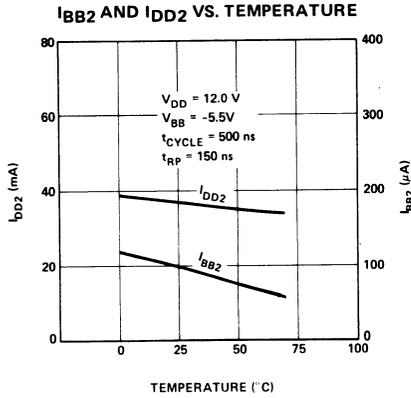

Figure 1.
1. For ( $\overline{RAS}$  before  $\overline{CAS}$ ) use  $I_{DD2}$  from Figures 1 and 2.
2. For ( $\overline{CAS}$  before  $\overline{RAS}$ ) multiply  $I_{DD2}$  determined in (1) by 0.96.
3. For ( $\overline{RAS}$  only) multiply  $I_{DD2}$  determined in (1) by 0.78.